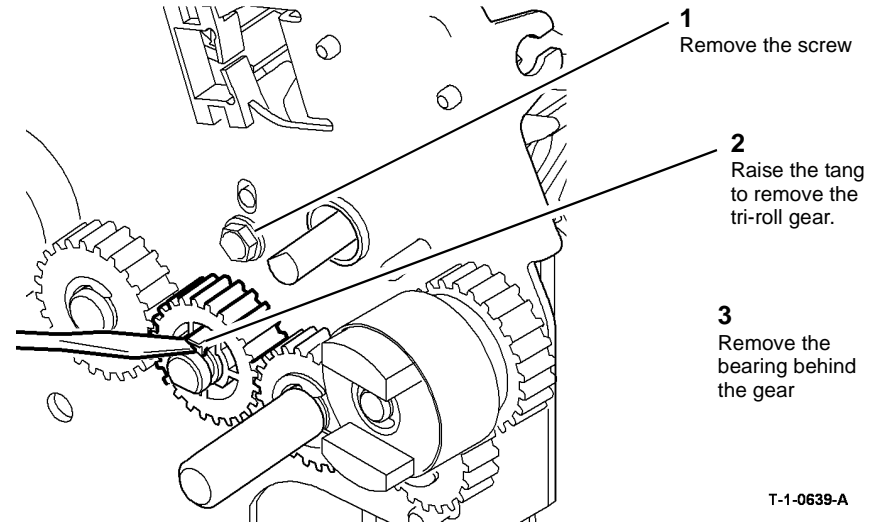

Figure 3 Tri-roll drive gear
- Remove the securing screw and tri-roll drive gear, **Figure 3**.